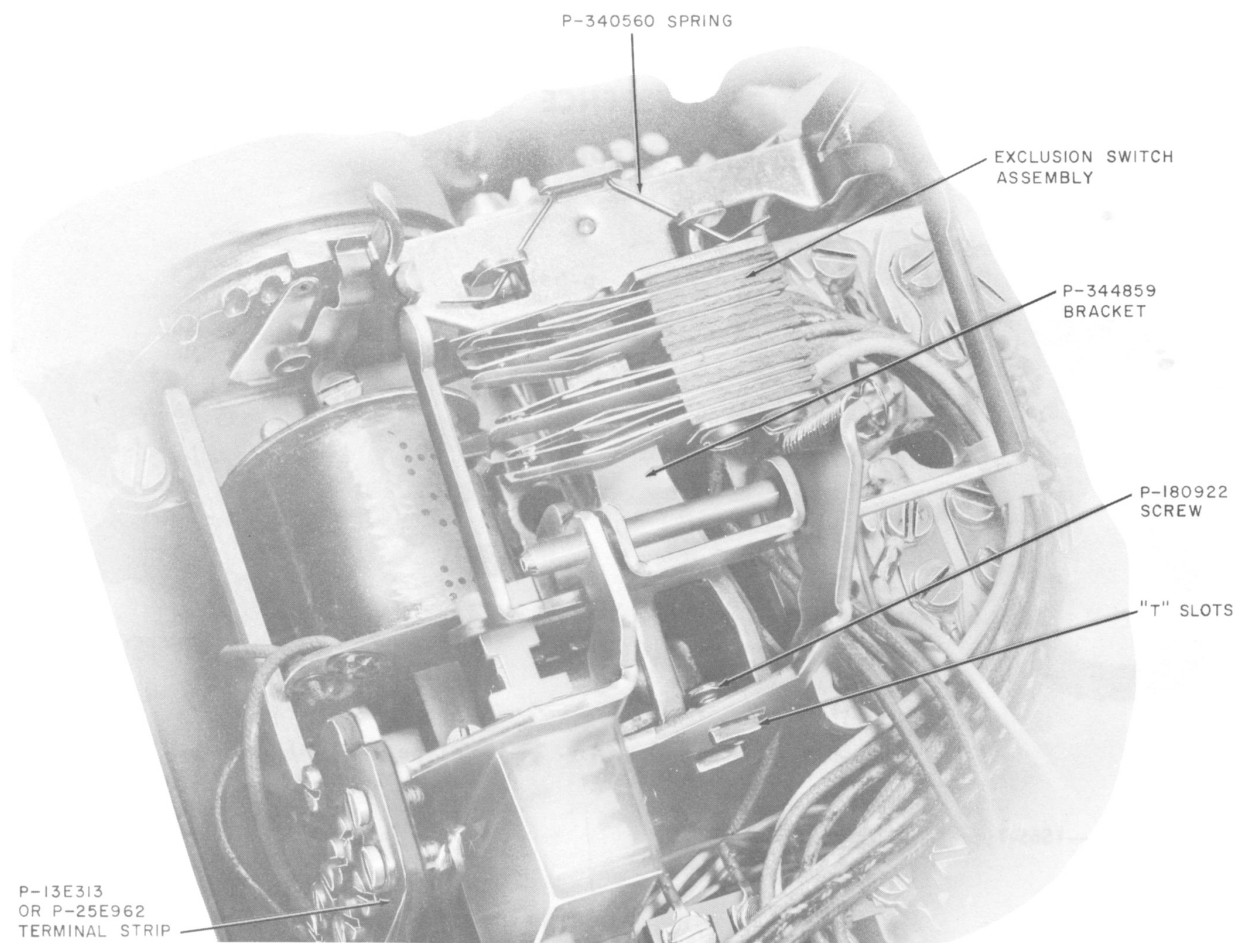

Fig. 3—D-179935 Kit of Parts, Installed
- (1) Remove housing. Remove hand hold cover and replace left hand line switch plunger (viewed from front of set) with P-14A613 plunger furnished in kit of parts. Replace hand hold cover.
- (2) Insert the P-344859 bracket into the T slots on the line switch bracket.
- (3) Tighten the P-180922 screw to hold the bracket to the T slots.
- (4) Mount the exclusion switch assembly to the bracket and secure in place with P-340560 spring (Fig. 3).
3.09 A terminal strip assembly may be ordered separately to provide additional terminals for connecting auxiliary equipment, if required. Refer to Ordering Guide. This terminal strip attaches to the line switch bracket (Fig. 3).